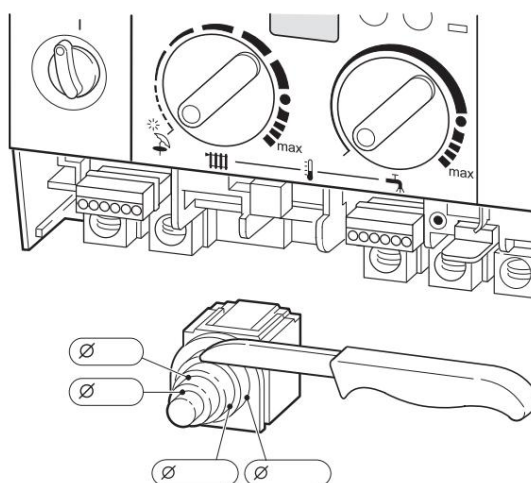

Fig. 12
B For protection against water resulting from splash (IP): Choose the cable passage hole according to its diameter, Fig. 12.
• For protection against water resulting from splash (IP): Choose the cable entry hole according to its diameter (see Fig. 12).